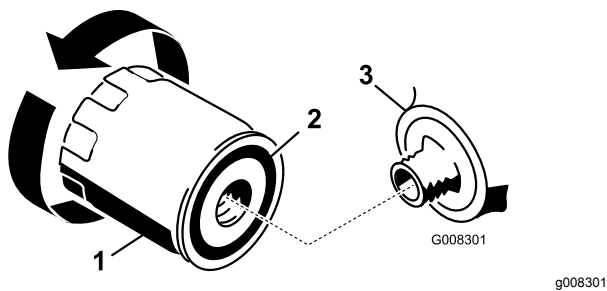

Figure 26
2. Remove the old filter and wipe off the adapter gasket surface (Figure 26).
3. Apply a thin coat of new engine oil to the rubber gasket on the new filter (Figure 26).
5. Tighten the filter an additional 1/2 to 3/4 turn (Figure 26).